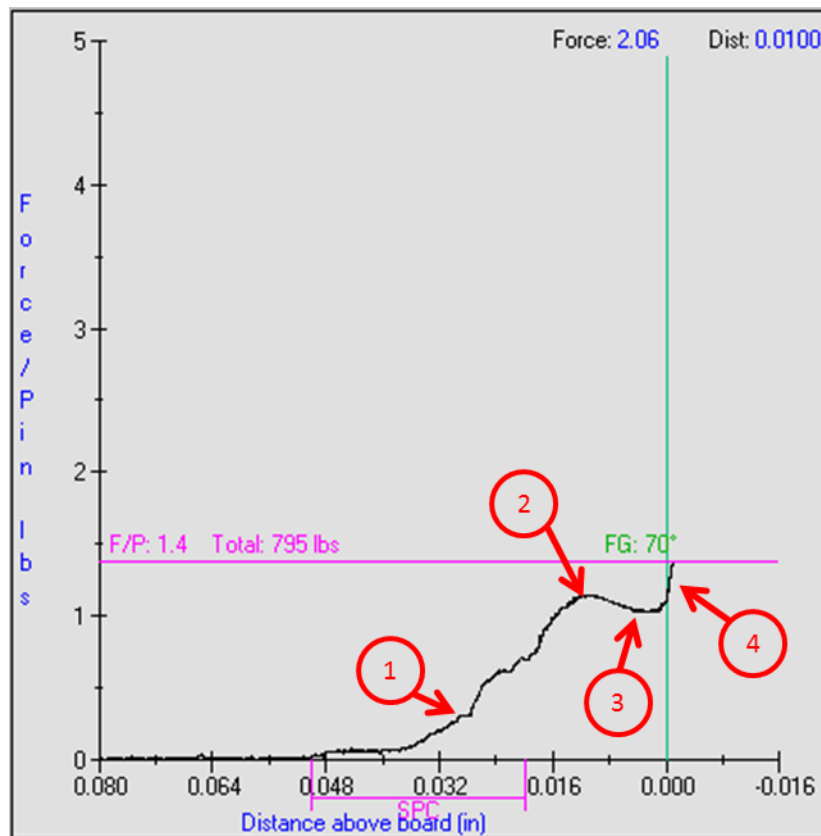

Figure A-7: Typical Force vs. Distance Curve of MEP-12T press for Paladin connectors.
The MEP-12T press produces a Force vs. Distance curve during a pressing sequence similar to the one shown in Figure A-7. The main areas of the curve are: the initial compression of the Paladin compliant pin and compliance of the PCB hole (1), the point of maximum deflection of the Paladin compliant pin (2), the sliding of the compliant pin in the PCB hole (3), and the termination force of the pressing sequence at the 75 Degree Force Gradient line (4). The following descriptions of these areas are for reference and are intended as an aid in understanding the pressing characteristics of the Paladin connector utilizing the *ATCS_FEMTO_FG_DWELL.prf* profile.